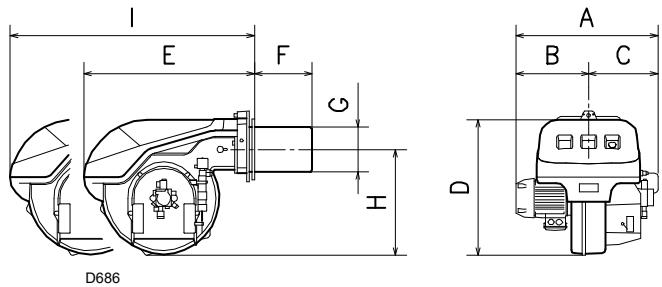

Fig. 1
3.2.2 Max. dimensions (Fig. 1) - approximate measurements
The maximum dimensions of the burner are given in (Fig. 1).